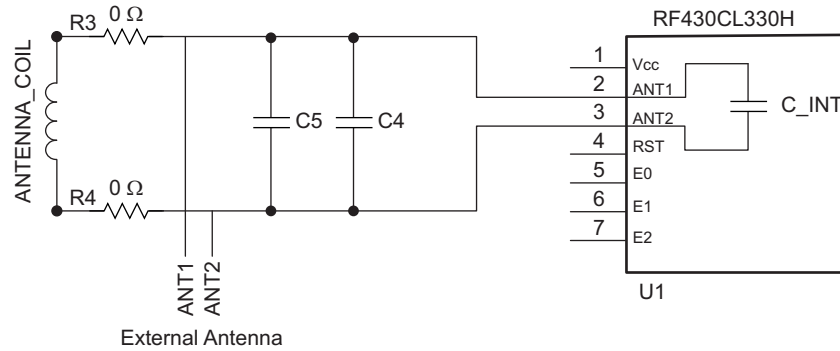

Figure 11. Target Board Antenna Connection
Figure 11 illustrates the basic input circuit of the RF430CL330H. The external antenna is connected at the JP1 pin, Pin 6 and Pin 7 on the RF430CL330HTB. The antenna (L) with the internal parallel capacitor (C_{int}) creates a resonant frequency.